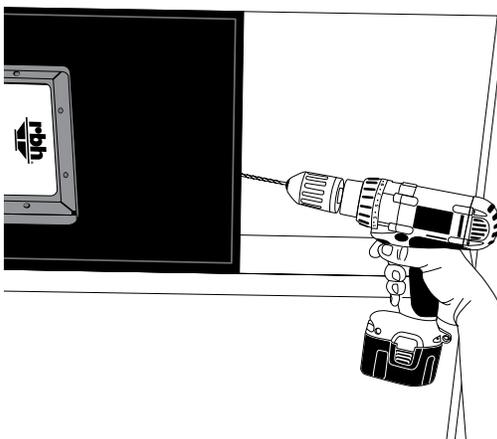

Figure 2.
6. If the terminal cup will not be used you will need to drill a hole the size of the speaker wire in one end of the speaker cabinet (see figure 2).